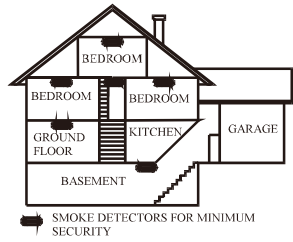

Figure 3: LOCATION FOR PLACING SMOKE ALARMS FOR A MULTI-FLOOR RESIDENCE
- Install a smoke alarm on every floor of a multi-floor home or apartment, as shown in Figure 3.